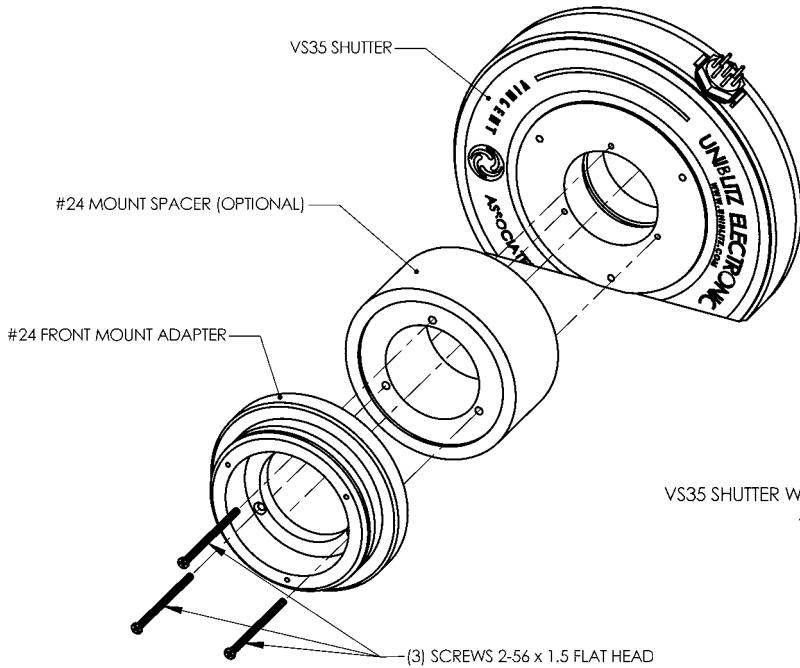

Figure 8
Contact Vincent Associates to request #24 mount spacer and 2-56X1 1/2 flat head screws. Using (3) flat head screws (1.5" length), attach #24 front mount and spacer to the front of the shutter housing. (See Figure 8)